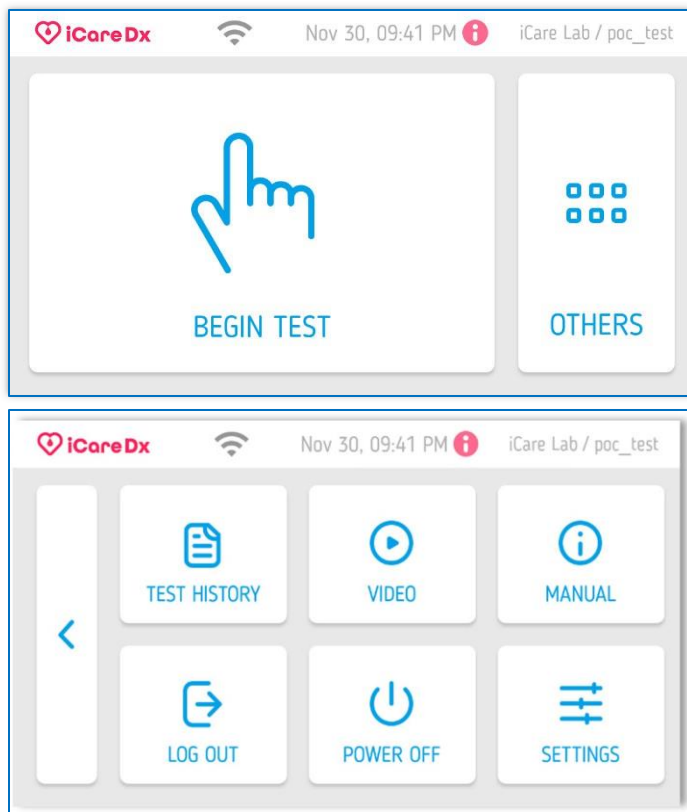

Figure 1
- Connect the supply using the cable provided with the unit. Turn the power on at the wall (if switched) then turn the power button On. PSS-1 will wake up, and initialize its systems. Once a screen like the one in Figure 1 is visible the PSS-1 is ready to use. This is the HOME screen and can always be returned to by touching the QUIT at the bottom left of the other screens.